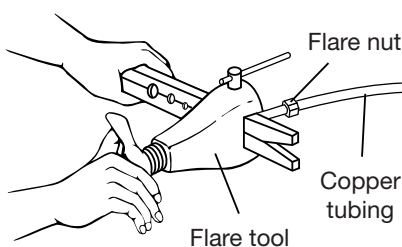

Figure 4
4. Make a flare at the end of copper tube with a flare tool (Figure 4).